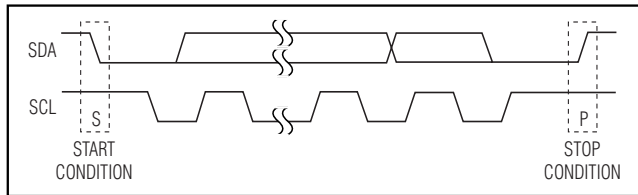

Figure 3. Start and Stop Conditions
Each transmission consists of a START condition (Figure 3) sent by a master, followed by the MAX6965 7-bit slave address plus R/ $\overline{\text{W}}$  bit, a register address byte, one or more data bytes, and finally a STOP condition (Figure 3).
Both SCL and SDA remain high when the interface is not busy. A master signals the beginning of a transmission with a START (S) condition by transitioning SDA from high to low while SCL is high. When the master has finished communicating with the slave, it issues a STOP (P) condition by transitioning SDA from low to high while SCL is high. The bus is then free for another transmission (Figure 3).